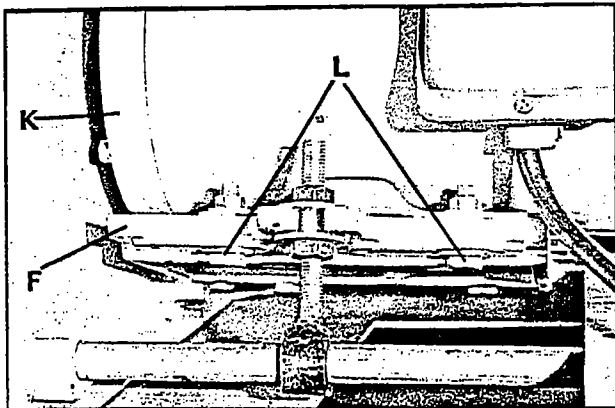

Fig. 10
2. Place motor (K) on motor plate (F), as shown in Fig. 10. Fasten motor (K) to motor plate (F) using the four sets of motor mounting bolts, washers and nuts (L). Do not completely tighten motor mounting nuts and bolts at this point.